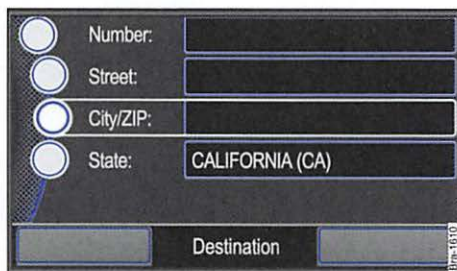
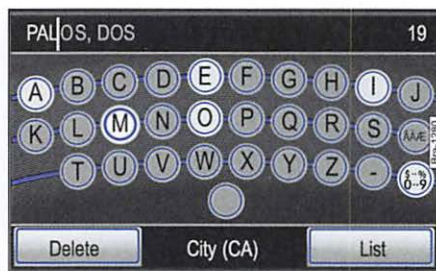

Fig. 46 Address entry window.
Fig. 47 Input screen for selecting a destination.
- Press one of the function buttons on the left hand side ⇒ fig. 46 to open the appropriate screen ⇒ fig. 47.